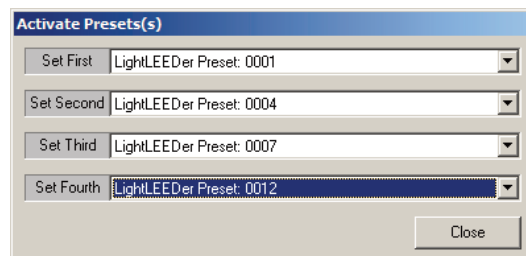

Figure 2.11 Select LightLEEDer Presets
- For Activate LL Presets, press Edit Control. Select the first preset by using the pull-down menu and selecting a LightLEEDer Preset as shown in figure 2.11. If desired, add up to 3 more LL Presets.